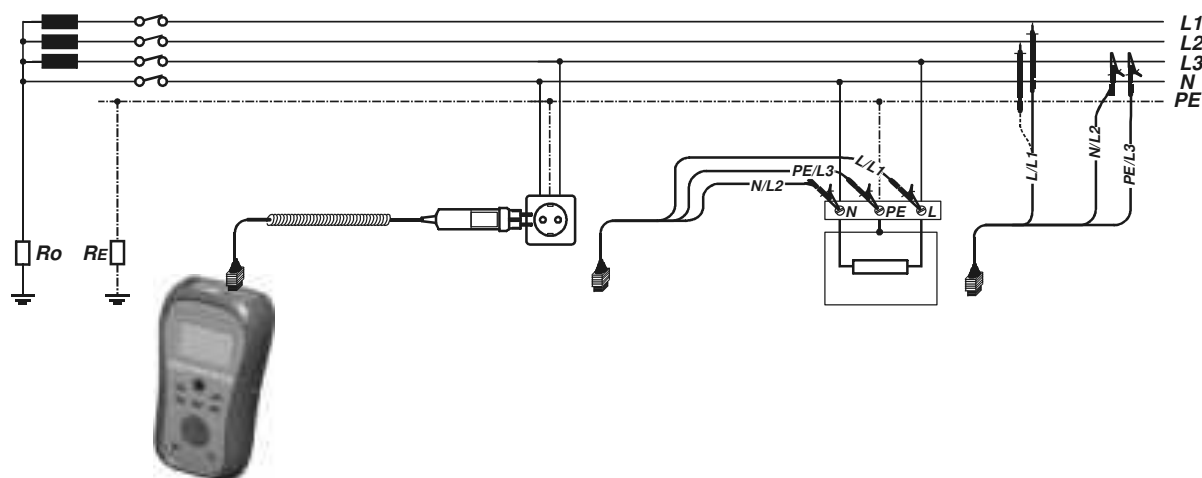

Figure 5.27: Phase-neutral or phase-phase line impedance measurement – connection of plug cable and universal test cable
- ❑ **Connect** test leads to the item to be tested (see figure 5.27).